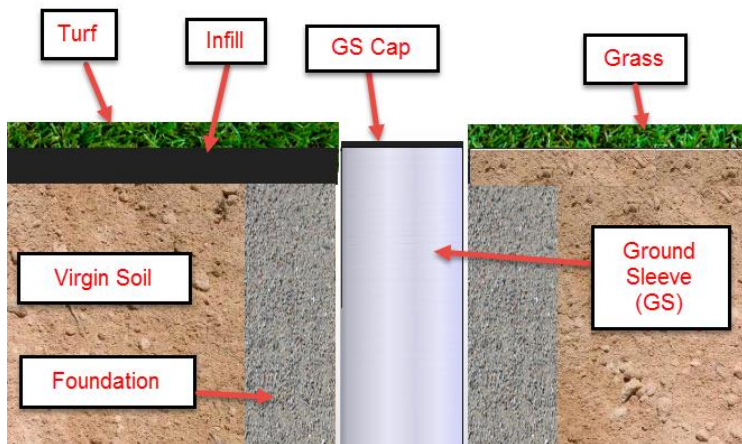

Figure 4 - Ground Sleeve Depth Reference (Section View)
3. Center the ground sleeves in the forms and secure them in a plumb position. The top of the ground sleeve should be flush with finished grade as shown in *Figure 4*.